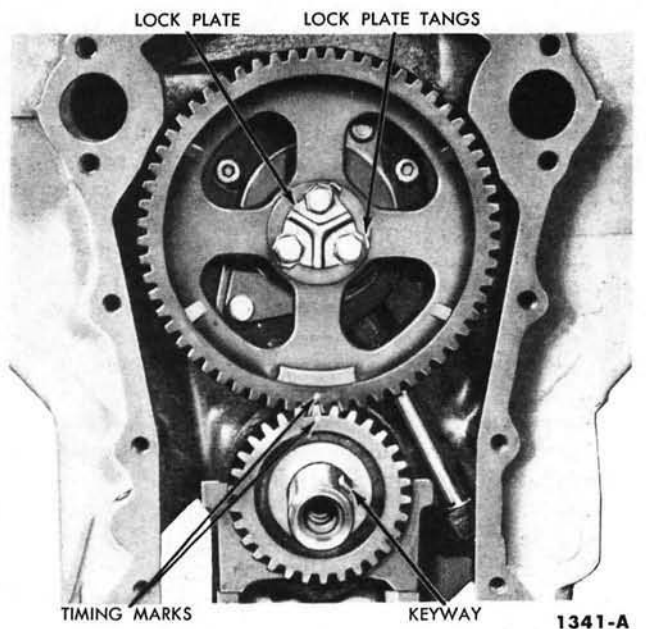
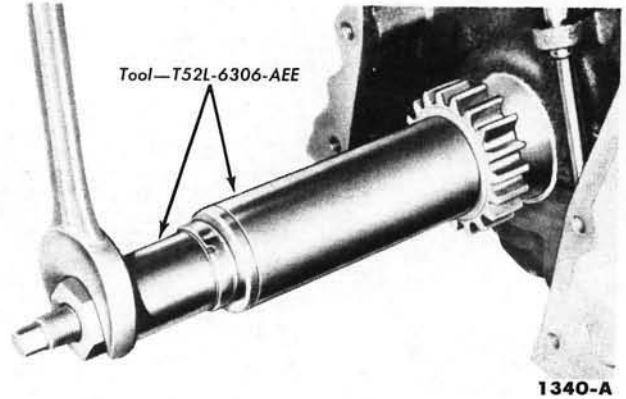

FIG. 39—Timing Gear Alignment—302 or 332 Engine
FIG. 44—Crankshaft Gear Installation—302 or 332 Engine
On a 302 and 332 engine, crank the engine until the timing marks on the gears are aligned as shown in Fig. 39. Remove the three capscrews and the lock plate securing the camshaft gear to the camshaft and remove the gear. Remove the crankshaft gear as shown in Fig. 40.
3. On a 302 or 332 engine, install the crankshaft gear (Fig. 44) and the camshaft gear with the timing marks aligned (Fig. 39). Install a new lock plate and install the three capscrews. Tighten the capscrews to 15-18 foot-pounds torque. Bend the tangs on the lock plate over the retaining screws. Install the crankshaft front oil slinger.
On a 302 or 332 engine, install the crankshaft gear (Fig. 44) with the timing mark aligned with the timing